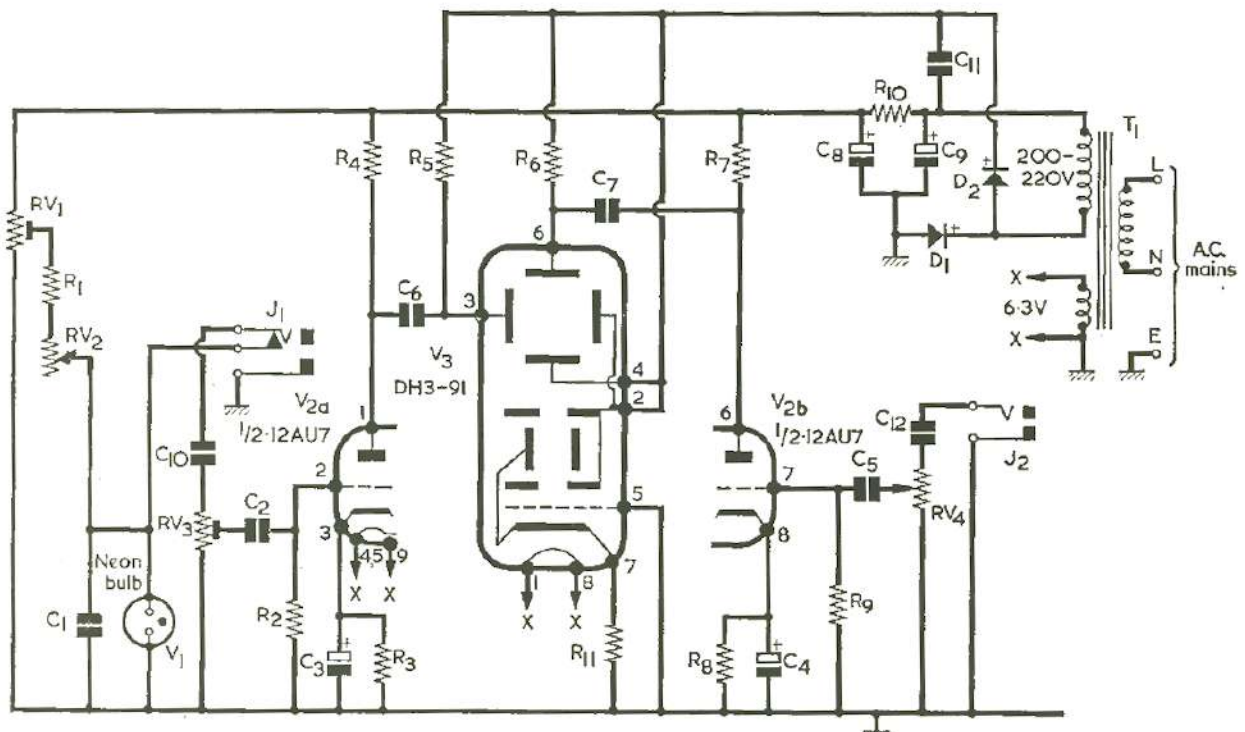

Fig. 2. The circuit of the miniature oscilloscope
In the full circuit diagram of Fig. 2 the neon relaxation oscillator circuit is given by RV1, R1, RV2, C1 and V1. Here, RV1 is the linearity control and it functions as a potential divider applying a preset voltage to R1 and RV2. The latter is the horizontal frequency control. RV1 is set so that, at the highest frequency selected by RV2 (where it inserts minimum resistance into circuit) the neon is just below the 'splash' point just mentioned. In the prototype, the slider of RV1 was set nearly at the h.t. positive end of its track.
The tube itself, a DH3-91, is ideal for this type of project owing to its small size, being only about 4in. long. Asymmetrical deflection was used, and as the brightness was about right for normal viewing and no focusing was necessary (the tube is a self-focusing type) no e.h.t. potential chain was needed. No centralising control is required, the spot being comfortably central provided that C6 and C7 have very low leakage. The pin connections to the tube shown in Fig. 2 cause the usual X and Y plate functions to be transposed. (In normal usage, the X plates are pins 4 and 6, and the Y plates are pins 2 and 3.)²
2. The true X plates of the DH3-91 are intended for symmetrical deflection and the true Y plates for asymmetrical deflection. Because of this difference, and since the electrode connections employed in Fig. 2 give the required centring in practice, these connections should be employed (although the use of the X and Y plates for their intended function could, of course, be checked out experimentally if desired). The DH3-91 is a current Mullard c.r.t. and may be purchased through radio retailers in the normal manner.—Editor.
J1	3.5mm jack socket with open-circuit leaf (see Fig. 2)
A 3-core mains lead passes through a grommet at the rear of the case and allows for connection to the mains via a 3-way plug. The mains lead ensures also that the metal case of the oscilloscope, which is common to the chassis line in Fig. 2, connects reliably to the mains earth. There is no on-off switch in